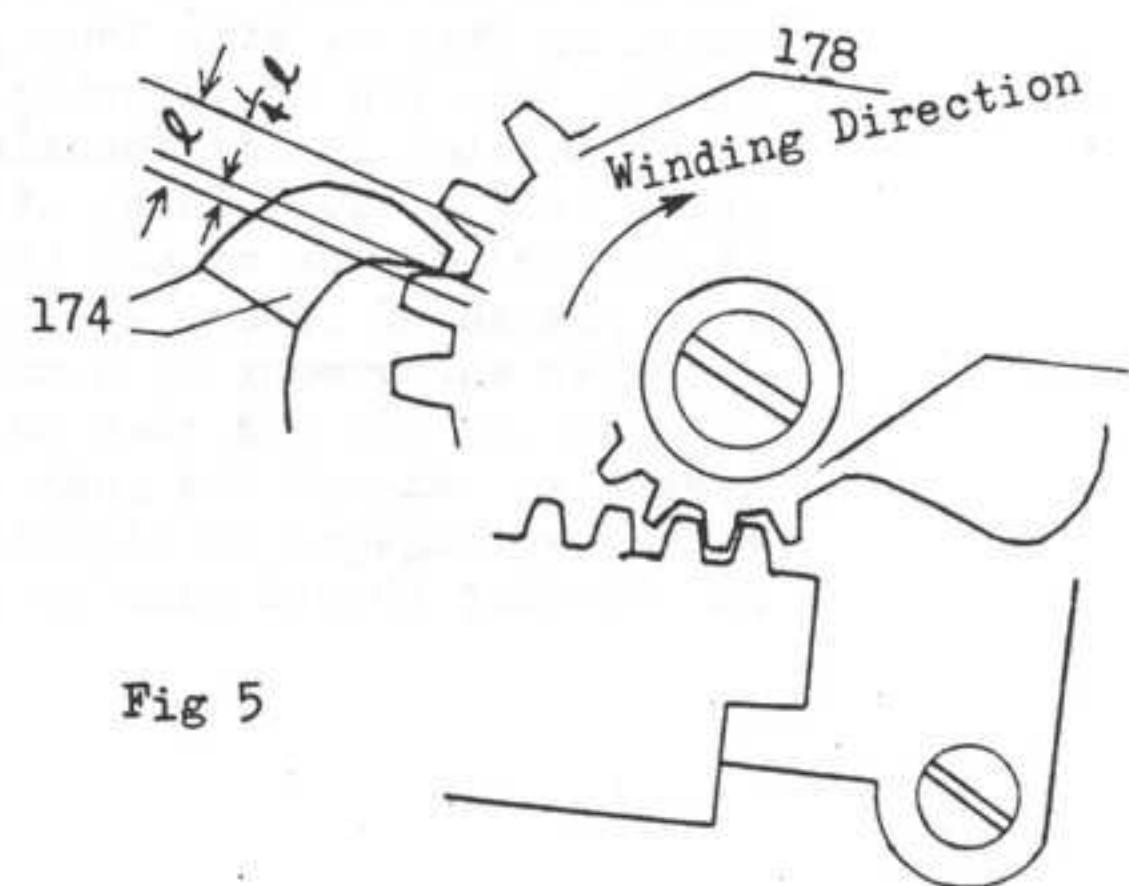

Fig 5
Make adjustment of Eccentric ratchet washer (173) so that the end of Ratchet pawl (174) will still position between the teeth of Winding gear (178), leaving $1/4$ of the width between gear teeth, at the very time when Wind lever (157) has been fully swung. See Fig. 5.